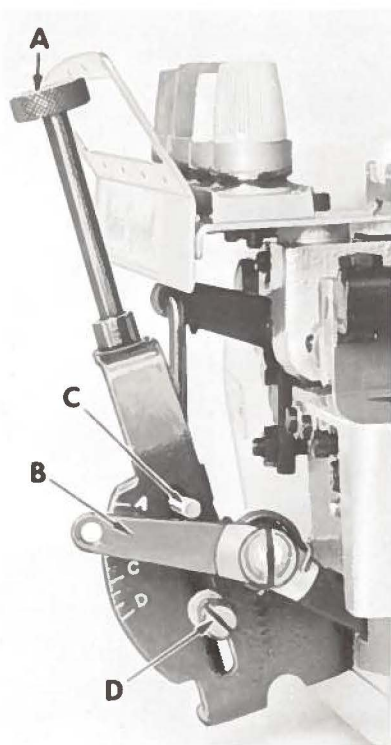

Fig. 15
Differential feed action is obtainable thru the use of a micrometer adjusting screw (A, Fig. 15).
The position of the differential control lever (B, Fig. 15) is governed by an upper stop (C) and a lower stop (D). The amount of lever movement between these two stops determines the feed action.